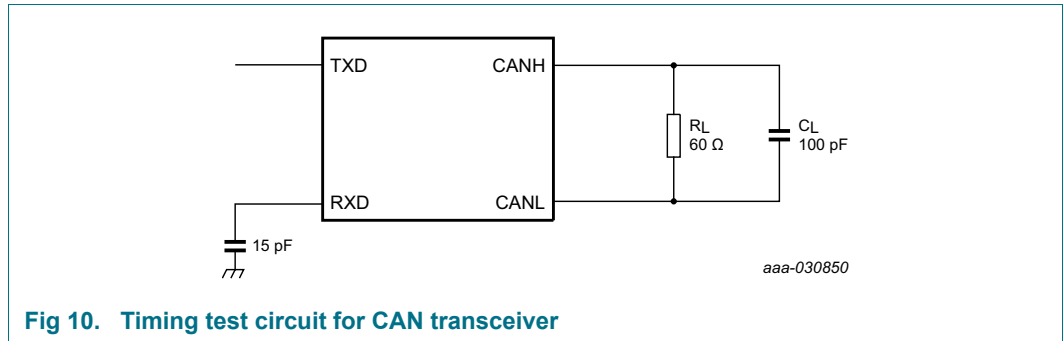

Fig 10. Timing test circuit for CAN transceiver
- [2] See Figure 7 and Figure 10.
- [3] See Figure 8 and Figure 10.